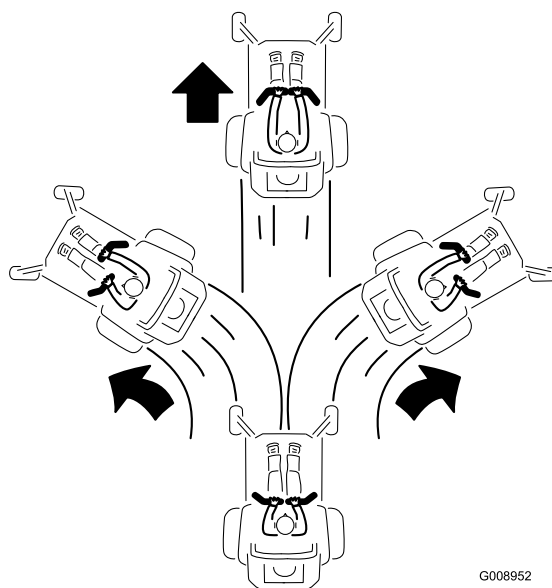

Figure 24
2. To go forward, slowly push the motion-control levers forward (Figure 24).